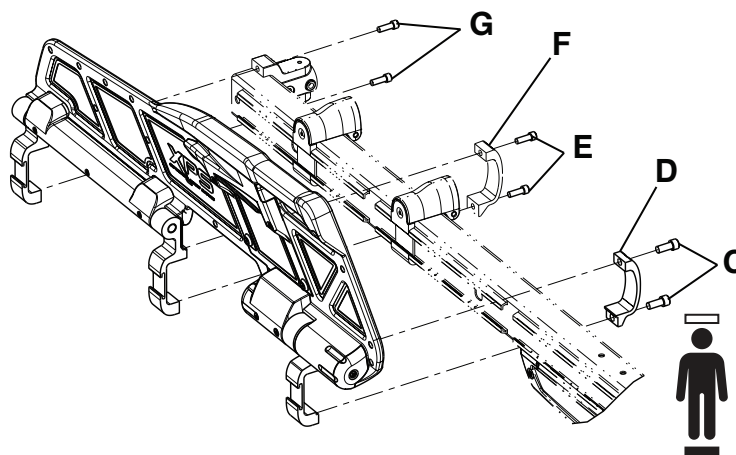

Figure 16 – Remove the siderail assembly
5. Using a 1/4" hex wrench, remove the socket head cap screws (C) that secure the siderail clamp (D) to the ratchet assembly at the foot end of the main assembly (Figure 16). Save the screws.
6. Using a 3/16" hex wrench, remove the two socket head cap screws (E) that secure the middle siderail clamp (F) to the outer rail assembly (Figure 16). Save the screws.
7. Using a 3/16" hex wrench, remove the two socket head cap screws (G) that secure the top and bottom of the base/litter interface bracket to the outer rail assembly (Figure 16). Save the screws.